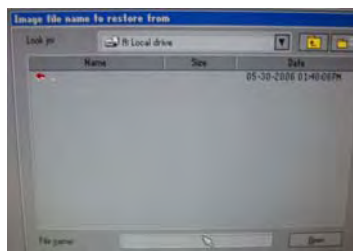

Figure 1-156. Ghost Disk Verification II
3. A file selection dialog window opens (Figure 1-156).